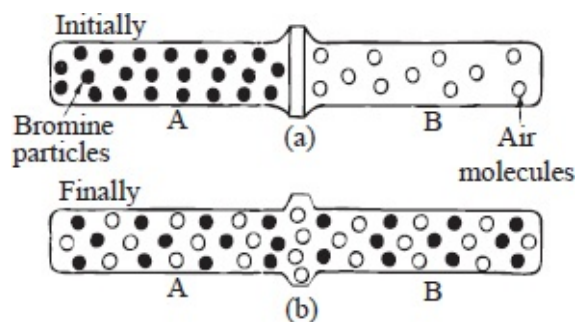

Fig. 5.11: Diffusion in gases
- The cardboard is removed and the jars pressed together tightly, see figure 5.11 (b).
Likewise, air spreads into gas jar A at greater rate than it returns to B because of high concentration of air particles in B. As shown in figure 5.11 (b), a homogeneous pale brown mixture forms in the two jars and because this happens